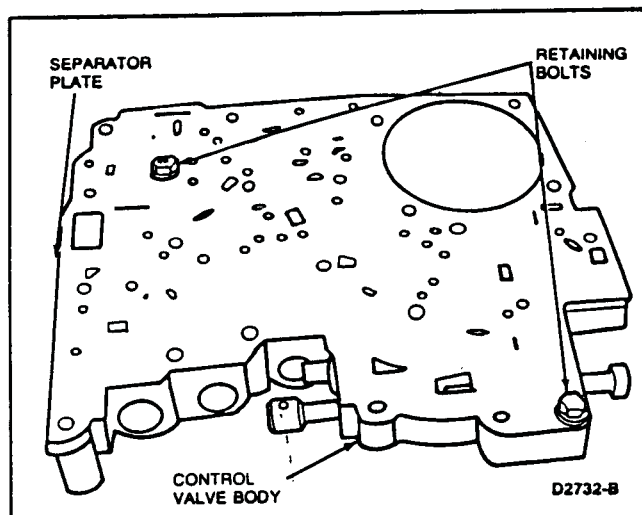

FIG. 38 Separator Plate Assembled
1. Remove the separator plate bolts and carefully lift off the separator plate (Fig. 38).
8. Using a new gasket, install the separator plate (Fig. 38). Be sure that the ID tag does not interfere with the control valve body fit to the case.